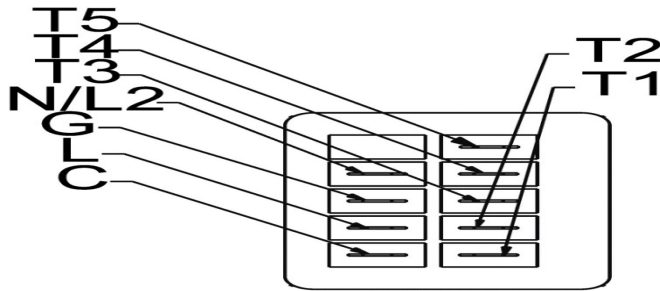

Figure 23: Constant Torque Motor Terminals
4. Disconnect the wire from the low voltage terminal block and reconnect the desired wire to the terminal. Refer to Figure 23 and Table 14 for motor connections.